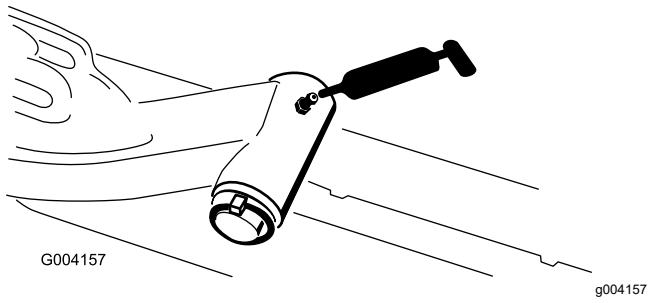

**Figure 103**
- Cutting-unit carrier-frame and pivot (2 each) (Figure 103)